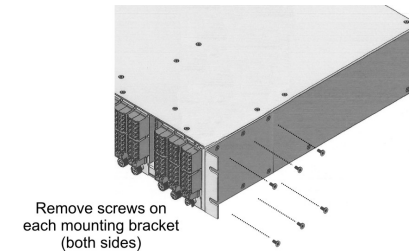

Figure 2: Removal of Standard Mounting Brackets
On an existing 19-Module chassis with standard mounting brackets, remove and replace the standard mounting brackets with the extended mounting brackets. Remove the six (6) screws securing the standard mounting bracket to the chassis as illustrated in Figure 2.